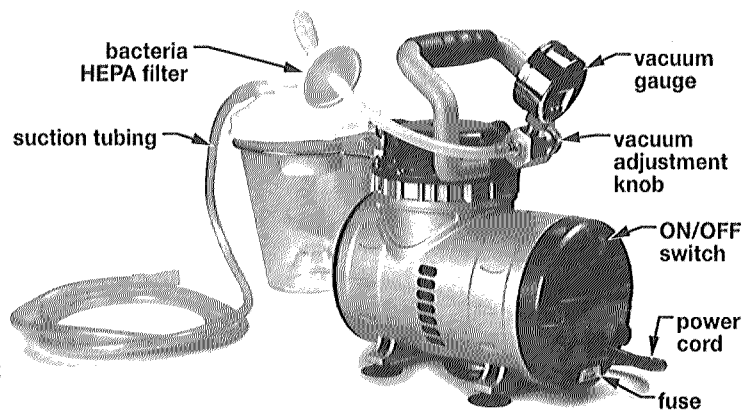

Figure 2
2. Connect the suction tubing to the top of the collection bottle at the outlet labeled "patient", as shown in Figure 2. Ensure that all connections are secure and without leaks before use.
3. Before use, check the specification label on the side of the aspirator to ensure that the voltage and current indicated on the unit match the voltage and current available. Make sure the ON/OFF switch shown in Figure 2 is in the OFF position before connecting the unit to a power source.